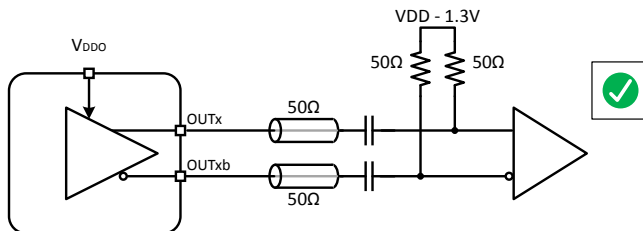

Figure 2.4. AC Coupled CML Termination
- 50 ohm termination resistors should be applied to each leg, according to Figure 2.4 AC Coupled CML Termination on page 5.